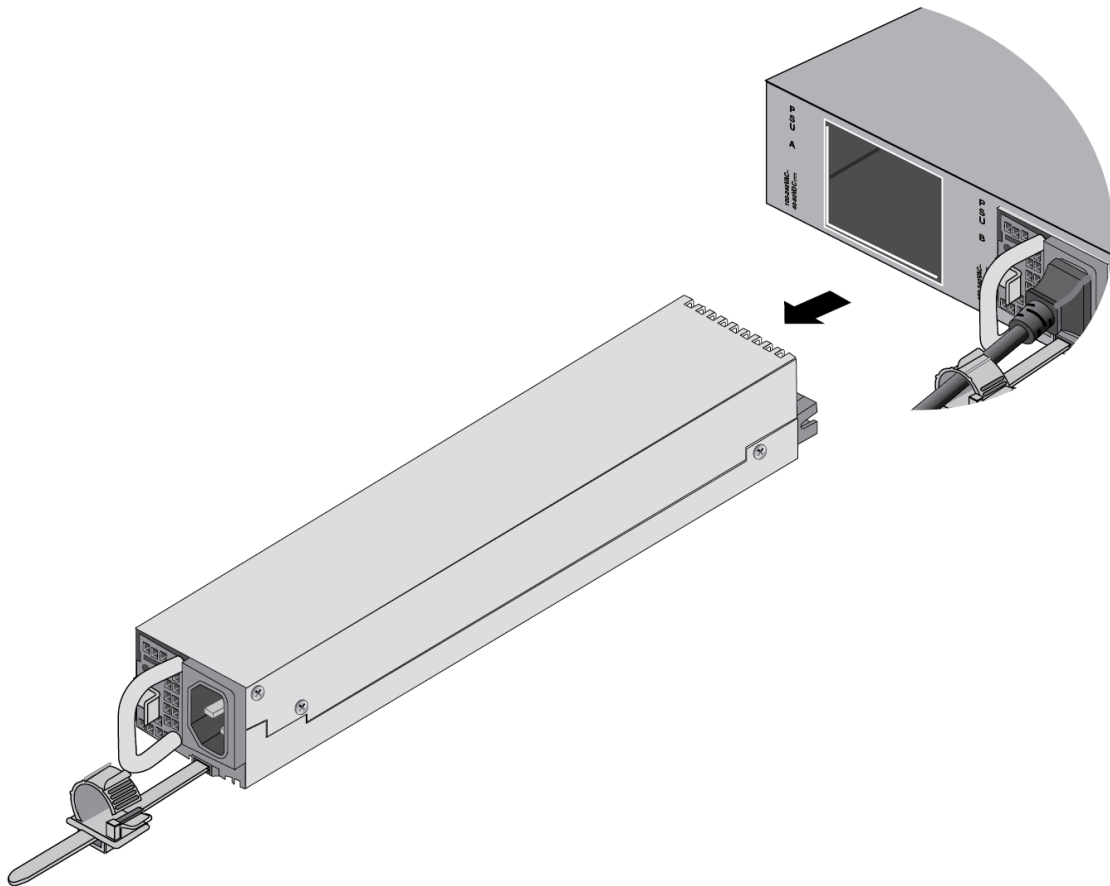

Figure 145. Removing a Power Supply
5. Carefully slide the power supply from the switch. Refer to Figure 145 on page 246.